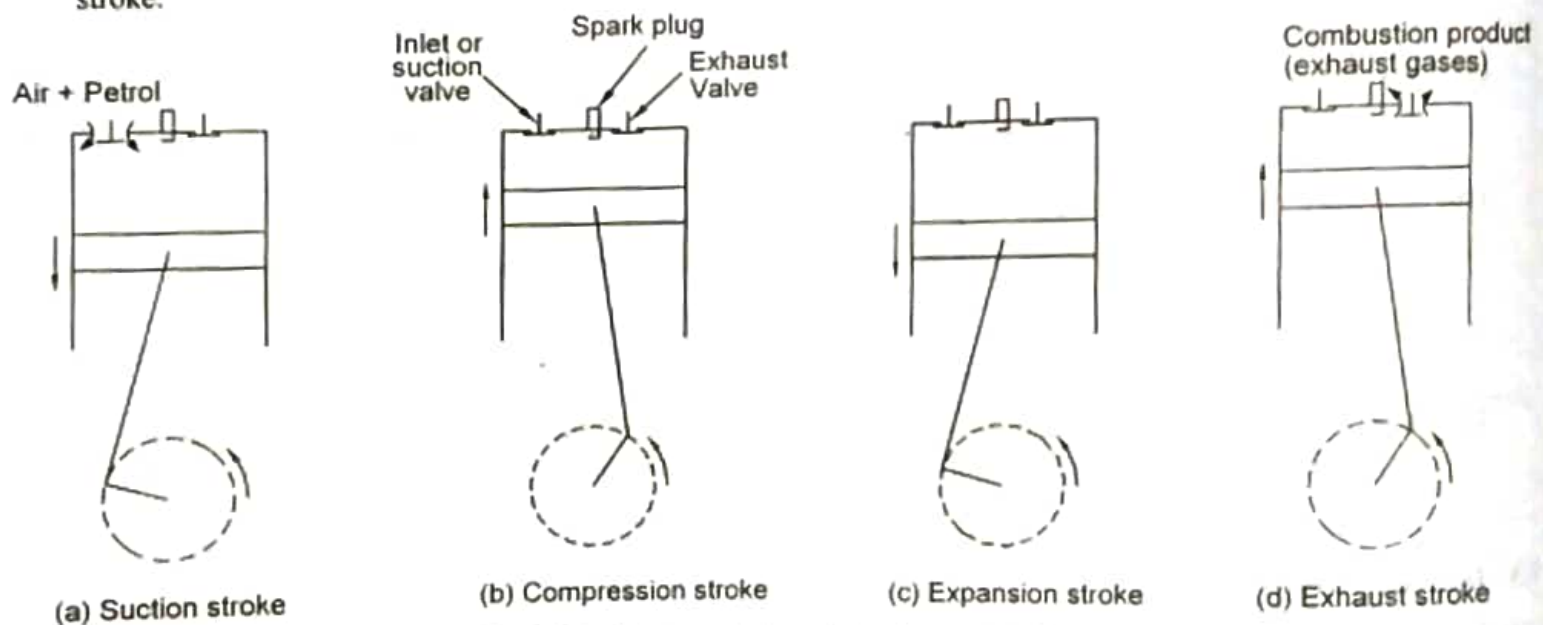

Fig. 7.2 Working of four stroke Petrol engine
- (1) **Suction Stroke** : As shown in Fig. 7.2(a) during this stroke inlet valve remains open and exhaust valve remains closed. Piston moves from TDC to BDC. Since pressure inside the cylinder reduces below atmospheric pressure during downward motion of piston and inlet valve opens, air-fuel mixture (charge) sucks in during this stroke. When piston reaches at BDC, inlet valve is closed.
- (2) **Compression Stroke** : As shown in Fig. 7.2(b) both valves remain closed during this stroke. Piston moves from BDC to TDC. Since both the valves are closed during upward motion of piston, air fuel mixture is compressed. Pressure and temperature of it will increase. When piston reaches to TDC, spark is produced by spark plug and it will ignite air-fuel mixture. This combustion is almost instantaneous. So it is referred as constant volume combustion. Pressure and temperature rapidly increases due to the combustion.
- (3) **Expansion or Power Stroke** : As shown in Fig. 7.2(c) both inlet and exhaust valves remain closed. Piston moves from TDC to BDC. High pressure combustion product acts on piston and piston moves downward. This is working stroke because during this stroke work is done by the engine.
- (4) **Exhaust Stroke** : As shown in Fig. 7.2(d) inlet valve remains closed and exhaust valve remains open during this stroke. Piston moves from BDC to TDC. During upward motion of piston, it pushes the exhaust gases (combustion product) out of the cylinder.